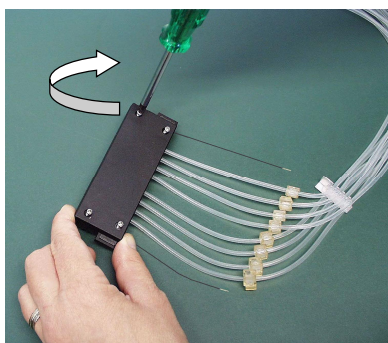

Figure 5-40. Replacing the lower part cover of the dispensing cassette
5. Fasten the four cover retaining screws of the lower part of the dispensing cassette (Figure 5-40).